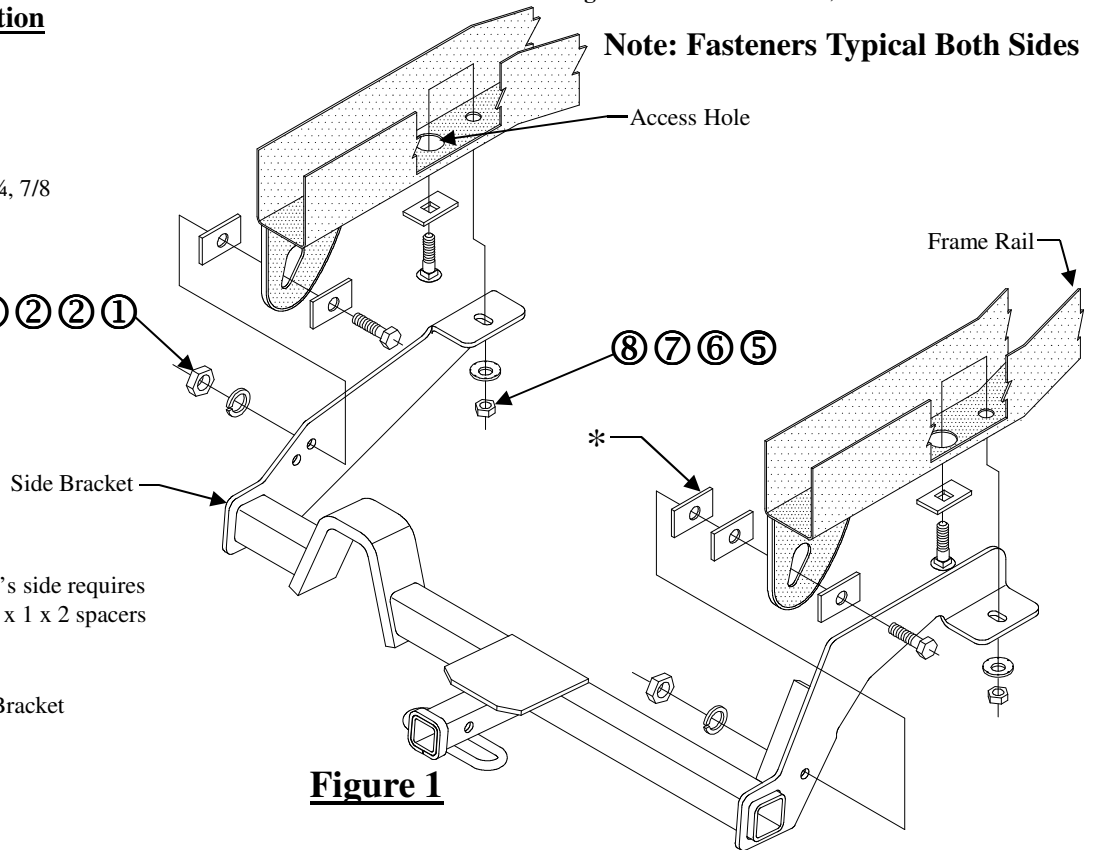

Figure 1
①	Qty. (2)	Hex Bolt 1/2-13 x 2-1/4 GR5	⑤	Qty. (2)	Carriage Bolt 7/16-14 x 1-1/2 GR5
②	Qty. (5)	Spacer 1/4 x 1 x 2	⑥	Qty. (2)	Spacer 1/4 x 1 x 3
③	Qty. (2)	Lockwasher 1/2	⑦	Qty. (2)	Conical Toothed Washer 7/16
④	Qty. (2)	Hex Nut 1/2-13	⑧	Qty. (2)	Hex Nut 7/16-14
- Remove the four (4) plastic caps from bottom of frame rails. Fishwire carriage bolts and blocks through access hole in bottom of frame as shown in Figure 1.
- Raise hitch into position. Loosely install hex nuts and conical toothed washers onto forward most fasteners. Install hex bolts and blocks as shown in Figure 1.